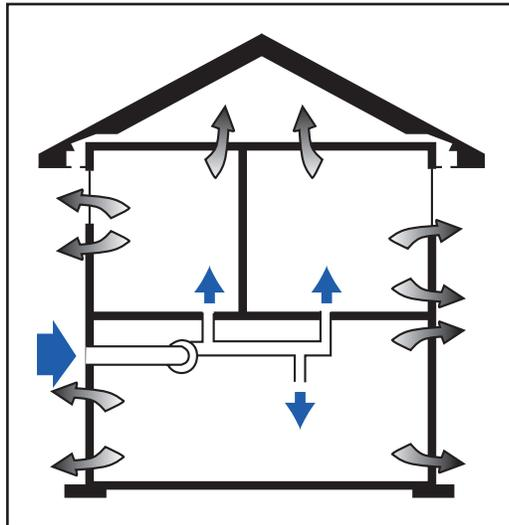

Fig. F-14: Supply-only system
- **Supply-only.** A supply-only system (see Figure F-14) creates a positive pressure within the house. Fresh air is pushed into the house forcing stale air out through chimneys and unintentional